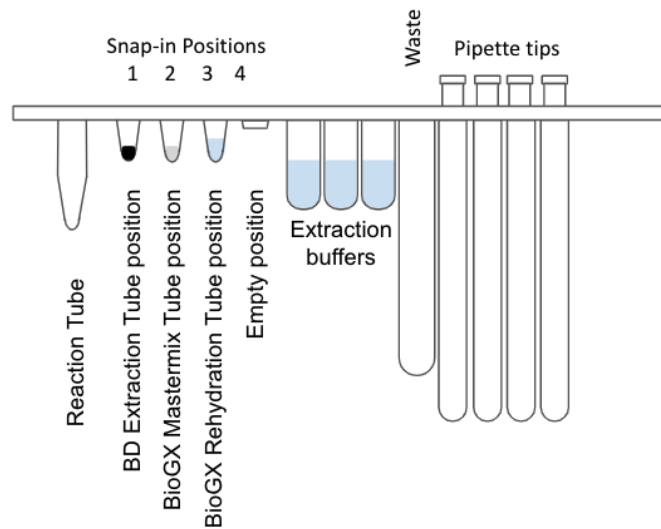

Figure 1. Diagram of BD MAX™ ExK™ 4-snap Unitized Reagent Strips.
3. Snap one BD MAX[™] ExK[™] DNA Extraction tube into snap-in position 1 (Snap-1) of each extraction strip (**Figure 1**).